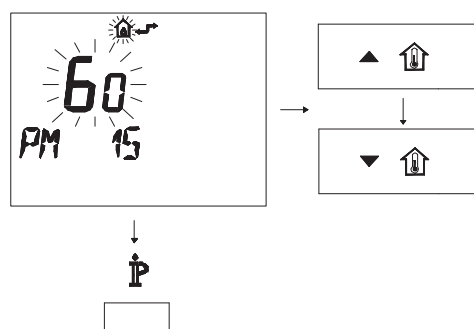

Fig. 7.14
- Modify the programmed SET by acting on buttons   or   until a **setting of 60** is displayed, wait for the number programmed to flash (Fig. 7.14).